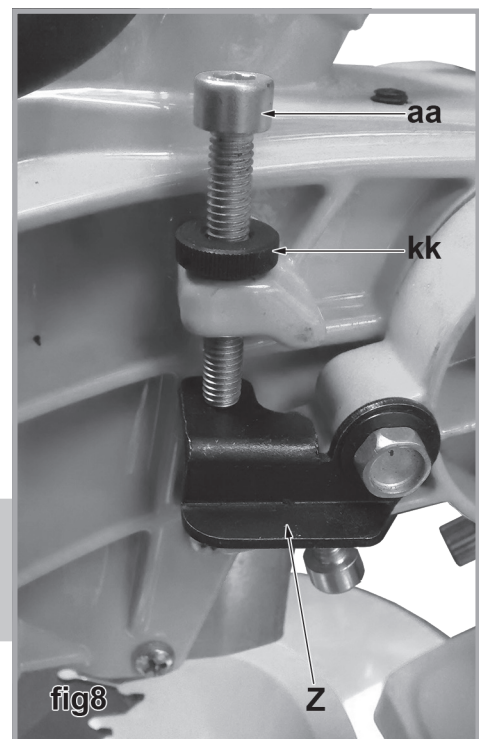

fig8
2. To set the depth to which the blade will cut during this operation, pull the dado stopper plate down from its resting position. (fig.8)